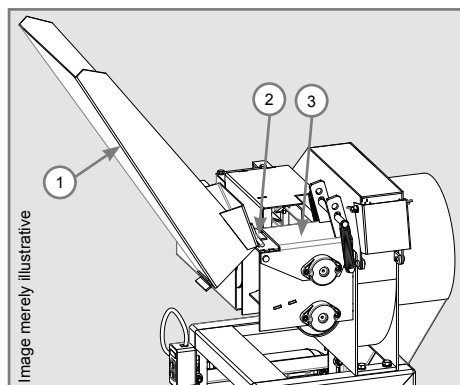

Figure 9
- ✓ Mount the green hopper (1) by tilting it at 90° and fit it in the holder (2) located in the infeed rollers' cap (3) (fig. 9).